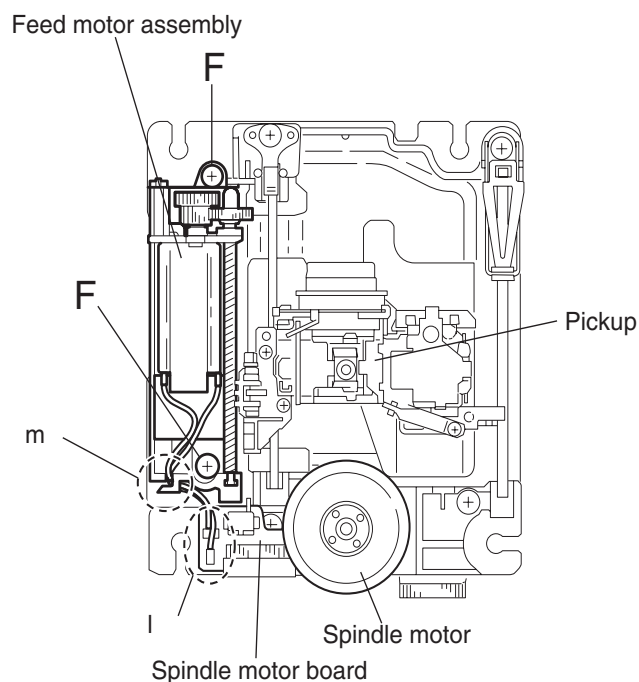

Fig.14
■ Removing the feed motor assembly (See Fig.14)
■ Removing the feed motor (See Fig.14~16)
CAUTION: When reassembling, set the two wires extending from the feed motor to the notch **m** of the feed holder as shown in Fig.14.